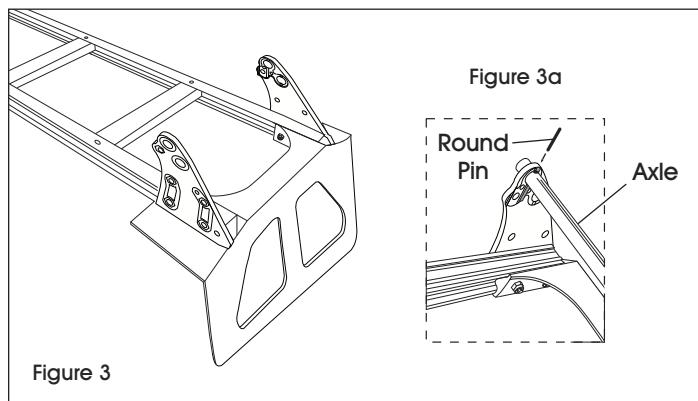

Figure 3
1. Lay hand truck on front so axle supports face upwards. (See Figure 3)